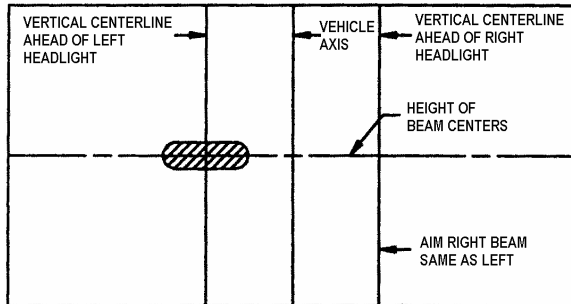

FIGURE 50: HIGH-INTENSITY ZONE (SHADED AREA) OF A PROPERLY AIMED UPPER BEAM ON THE AIMING SCREEN 7.6 M (25FT) IN FRONT OF VEHICLE 06503
5. High beam headlights are aimed so that the center of the high-intensity zone is located at the horizontal and straight ahead vertically (Fig. 50).